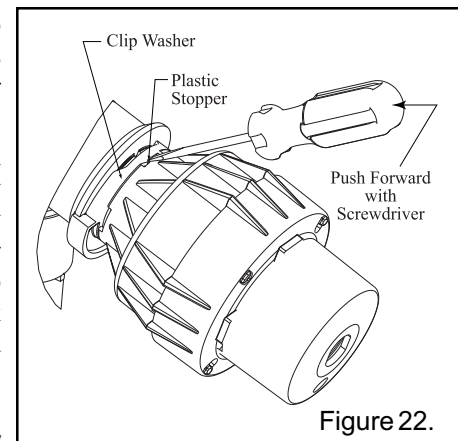

Figure 22.
6. With the end of a flat head screw driver, push the plastic stopper in the clip washer forward towards the front of the light, see Figure 22.
5. With the end of a flat head screw driver, push the plastic stopper in the clip washer forward towards the front of the light, see Figure 22.